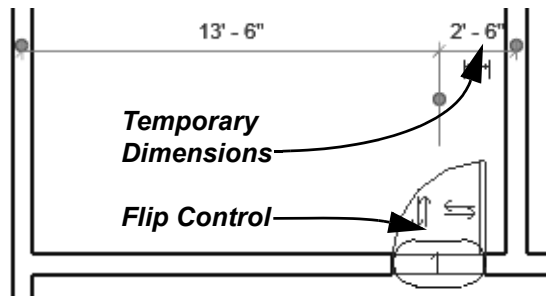

Figure 2–26
6. Select the door. Use temporary dimensions to move it so that it is **2'-6"** from the right interior vertical wall. If required, use controls to flip the door so that it swings into the room, as shown in Figure 2–26.